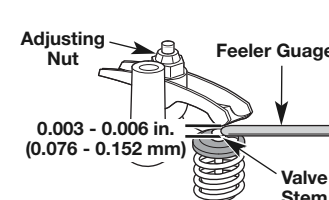

Fig. 22
8. Use a feeler gauge to measure the clearance between one of the valve stems and its corresponding rocker arm (Fig. 22). Repeat this process for the other valve stem and rocker arm. The recommended clearance is **0.003 – 0.006 in. (0.076 – 0.152 mm)**. Use a standard automotive **0.005 in. (0.127 mm)** feeler gauge. The feeler gauge should slide between the rocker arm and valve stem with a slight amount of resistance, without binding (Fig. 22).
- a. Turn the adjusting nut with a 5/16 inch (8 mm) wrench or nut driver (Fig. 22).